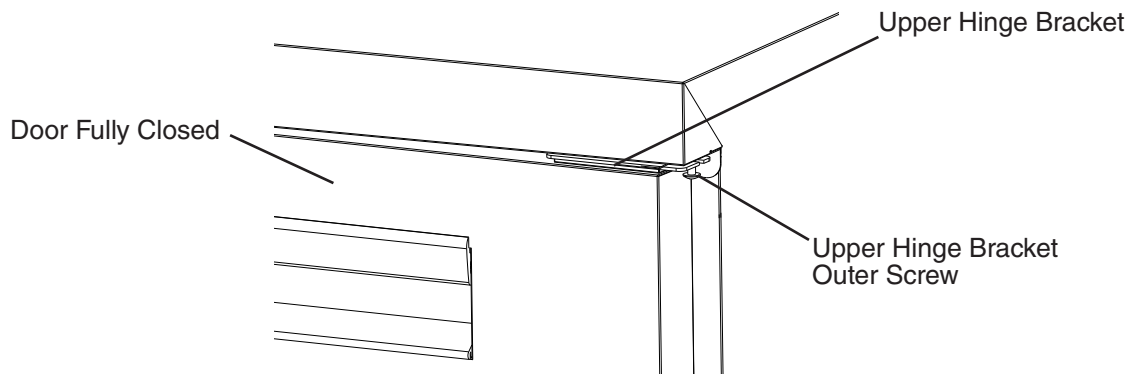

Fig. 30
- 19) Close the door and tighten the upper hinge bracket outer screw. See Fig. 30.